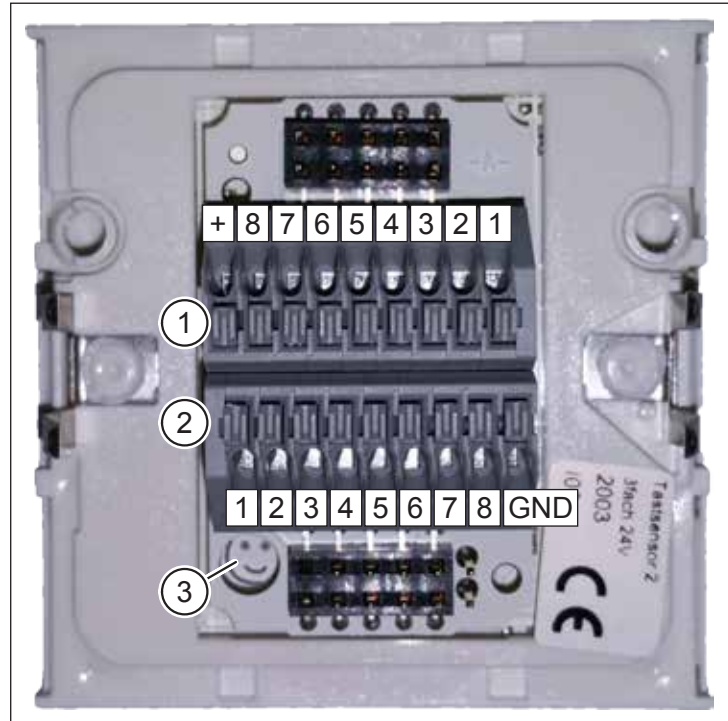
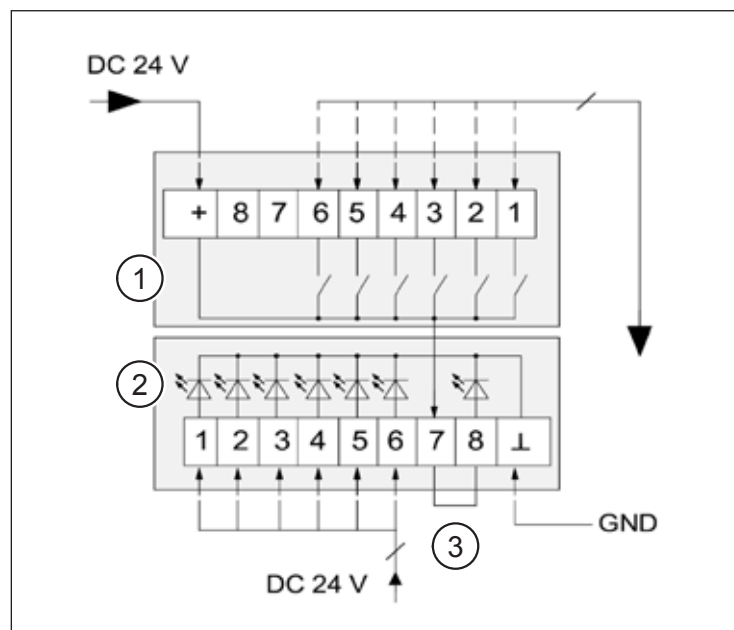

Fig. 27: InControl pushbutton sensor with terminal assignment
Fig. 28: InControl pushbutton sensor connection diagram
Item in Fig. 27	Designation
Use the smiley (item 3 in Fig. 27) as an orientation guide. It is only in this position that the connections on the terminal blocks agree with the connections identified in the connection diagram (Fig. 28).
Item in Fig. 28	Designation
The InControl pushbutton sensor has a backlight that can be activated if required. Place a bridge (item 3 in Fig. 28) across terminals 7 and 8 of the terminal block for LEDs to supply 24 V DC to the backlight.